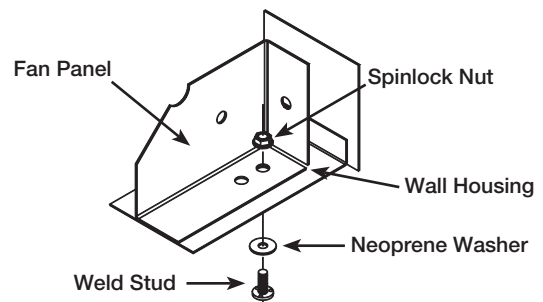

Figure 3 - Assembly
2. Using weldstuds and neoprene washers, attach the wall housing bottom panel (Item 4) to the bottom of the fan panel. With the weldstud heads and neoprene washers on the exterior of the housing, refer to Figure 3, place hex nuts on the spinlock bolts and finger tighten.